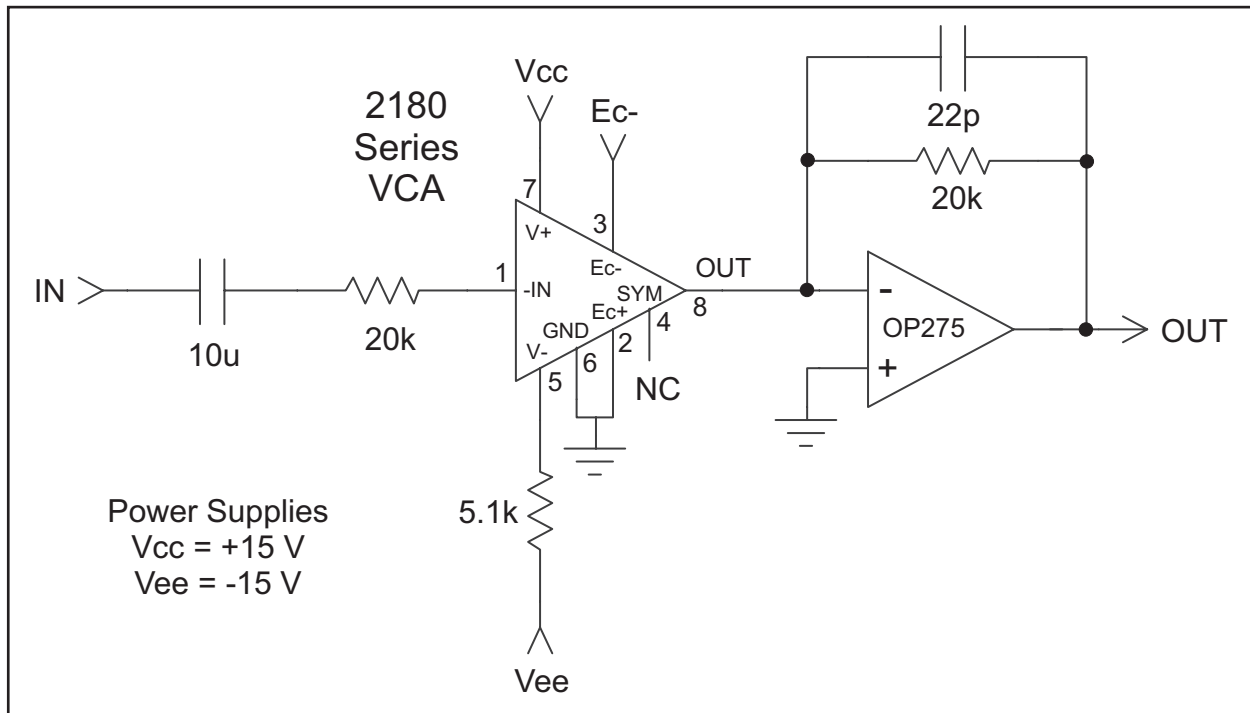
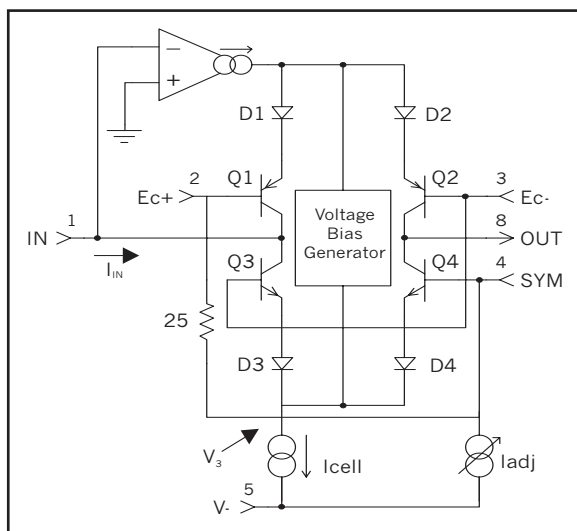
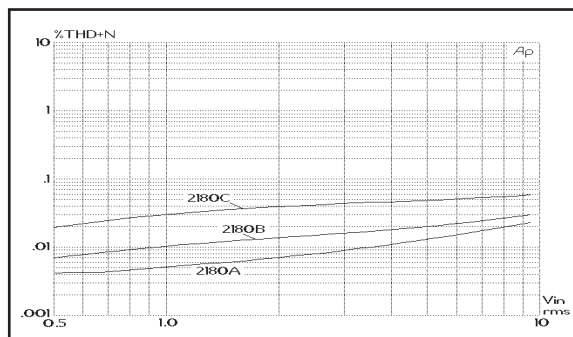
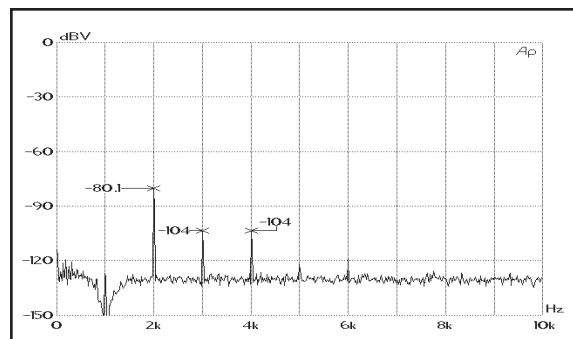

Figure 2. Typical Application Circuit
Figure 5. Simplified Internal Circuit Diagram
Figure 10. 1 kHz THD+Noise Vs. Input Level, 0 dB Gain
Figure 13. FFT of THD, 0dB gain, 1kHz, 0dBV, Typical 2180B
2. Unless otherwise noted,  $T_A = 25^\circ\text{C}$ ,  $V_{CC} = +15\text{V}$ ,  $V_{EE} = -15\text{V}$ . Test circuit is as shown in Figure 2.
Figure 5 presents a considerably simplified internal circuit diagram of the IC. The ac input signal current flows in pin1, the input pin. An internal operational transconductance amplifier (OTA) works to maintain pin 1 at a virtual ground potential by driving the emitters of Q1 and (through the Voltage Bias Generator) Q3. Q3/D3 and Q1/D1 act to log the input current, producing a voltage, V3, which represents the bipolar logarithm of the input current. (The voltage at the junction of D1 and D2 is the same as V3, but shifted by four forward  $V_{be}$  drops.)
The 2180 current consumption is determined by the resistor between pin 5 ( $V^-$ ) and the negative supply voltage ( $V_{EE}$ ). Typically, with 15V supplies, the resistor is  $5.1\text{ k}\Omega$ , which provides approximately  $2.4\text{ mA}$ . This current is split into two paths:  $570\text{ }\mu\text{A}$  is used for biasing the IC, and the remainder becomes  $I_{cell}$  as shown in Figure 5.  $I_{cell}$  is further split in two parts: about  $20\text{ }\mu\text{A}$  biases the core transistors (Q1 through Q4), the rest is available for input and output signal current
recommended. In particular, the 2180 maintains low distortion over a wide range of gain, cut and signal levels. Figures 10 through 12 show typical distortion performance for representative samples of each grade of the part. Figure 13 shows the harmonic content of the distortion in a typical B-grade part.
The Input pin (pin 1) is a virtual ground with negative feedback provided internally (see Figure 5, Page 4). The input resistor (shown as 20 k $\Omega$  in Figure 2, Page 3) should be scaled to convert the available ac input voltage to a current within the linear range of the device. Generally, peak input currents should be kept under 1 mA for best distortion performance.
Figures 10 through 12 show distortion vs. Signal level for the three parts in the 2180 Series for 0 dB, +15 dB and -15 dB gain. The circuit of Figure 2, Page 3 was used to generate these curves.
A designer may trade off noise for distortion by decreasing the 20 k $\Omega$  current-to-voltage converting resistors used at the input and output in Figure 2, Page 3. For every dB these resistor values are decreased, the voltage noise at the output of the OP275 is reduced by one dB. For example, with 10 k $\Omega$  resistors, the output noise floor drops to -104 dBV (typical) at 0 dB gain — a 6 dB reduction in noise because 10 k $\Omega$  is 1/2 of (6 dB lower than) 20 k $\Omega$ .
The Output pin (pin 8) is intended to be connected to a virtual ground node, so that current flowing in it may be converted to a voltage (see Figures 2 & 14). Choose the external opamp for good audio performance. The feedback resistor should be chosen based on the desired current-to-voltage conversion constant. Since the input resistor determines the voltage-to-current conversion at the input, the familiar ratio of  $R_f/R_i$  for an inverting opamp will determine the overall voltage gain when the 2180 is set for 0 dB current gain. Since the VCA performs best at settings near unity gain, use the input and feedback resistors to provide design-center gain or loss, if necessary.